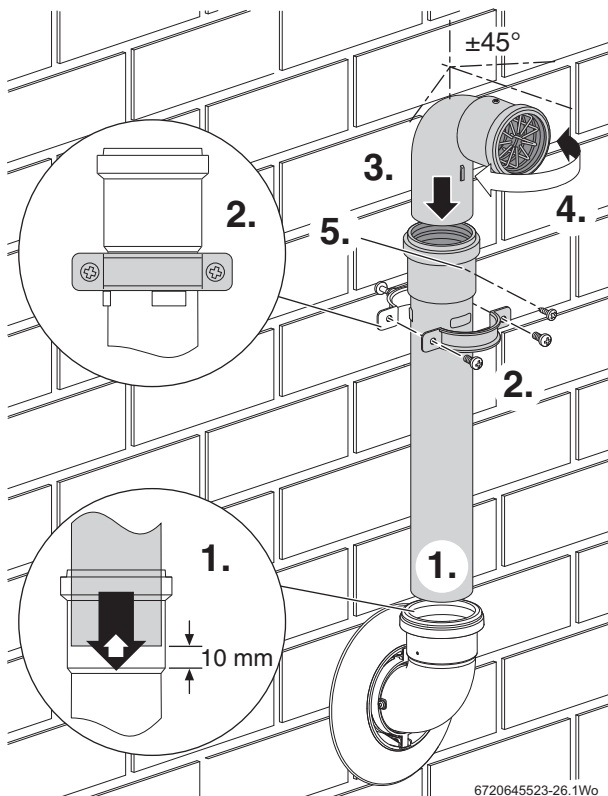
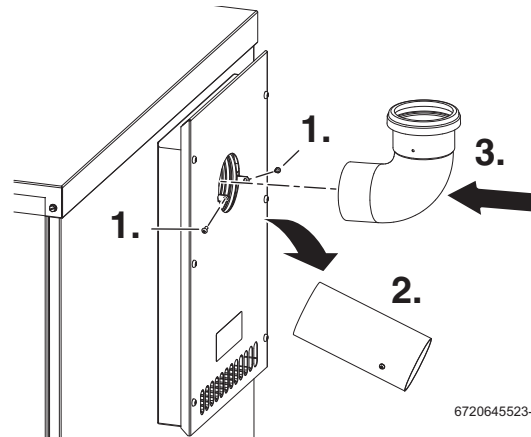

Fig. 49 Plume management installation
Fig. 50 Fitting the terminal bend
3. Mark the position for the wall clamp so that it coincides with the extension tube just below the top fitting (Refer to figure 49 point 2). Drill a hole to suit the wall plug and fit the wall plug.
- Refer to figure 49 plume management installation.
▶ Fit a flue damper into the plume management for 18/25 wall mounted Danesmoor boiler only. Fit the damper (1) as shown in figure 49, ensuring the correct orientation of the damper. The rubber seal is inserted into the extension tube. Then assemble the plume management system as shown in figure 50.